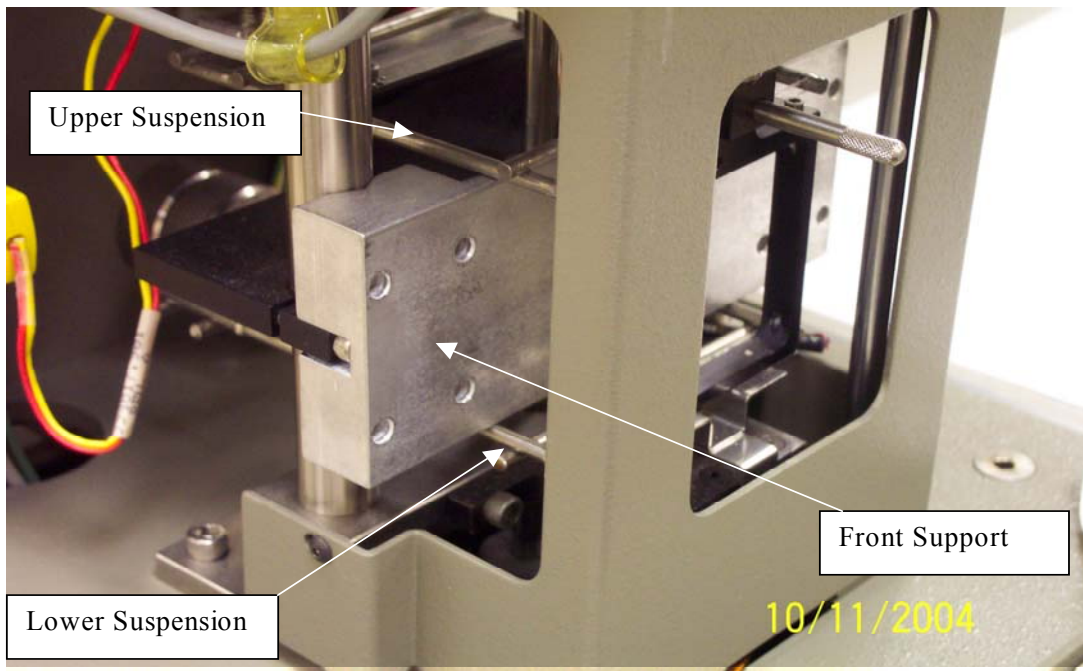

Figure 5
5. Carefully slide the front support bracket between the upper and lower suspensions, behind the weight tray mounting bracket (Figure 5).